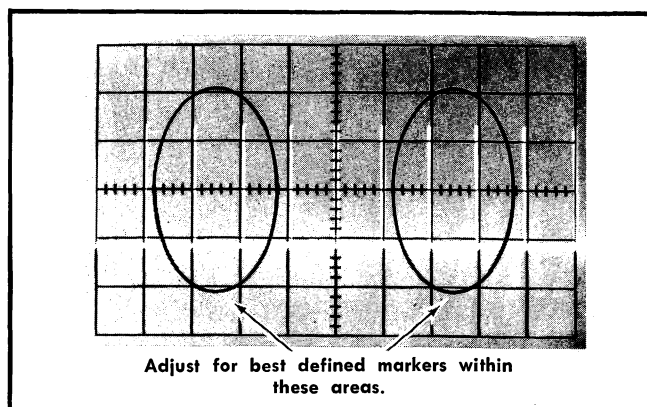

Fig. 5-1. Astigmatism check, typical display.
d. CHECK—Markers should be well defined within the areas indicated in Fig. 5-1 with optimum setting of the FOCUS control.